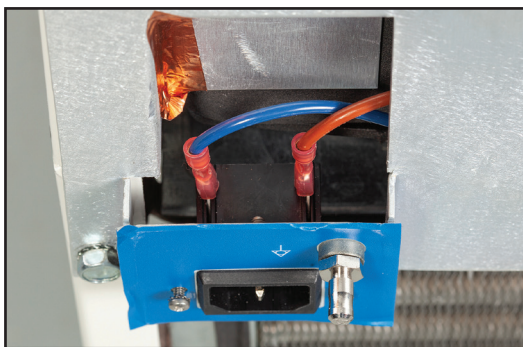

Fig 8-39 Placement of power inlet wires (blue on left, red on right)
3. Using needle nose pliers, carefully disconnect the two (2) spade terminals connected to the top of power inlet module. Carefully feed the wires through the opening in the sheet metal prior to removing circuit card.
4. Using a phillips head screwdriver, remove the four (4) screws connecting the AC PCB to the lower bracket.
6. Route the two (2) power inlet wires through the opening and reconnect them to the power inlet module. Note the orientation of the wires (see figure 8-39).
8. Reinstall the power supply, ensure the two (2) ground wire ring terminals are installed with the upper right screw on the circuit card.
9. Reinstall the jumper to the AC PCB and connect the two (2) lower main harness connections on the power supply board.